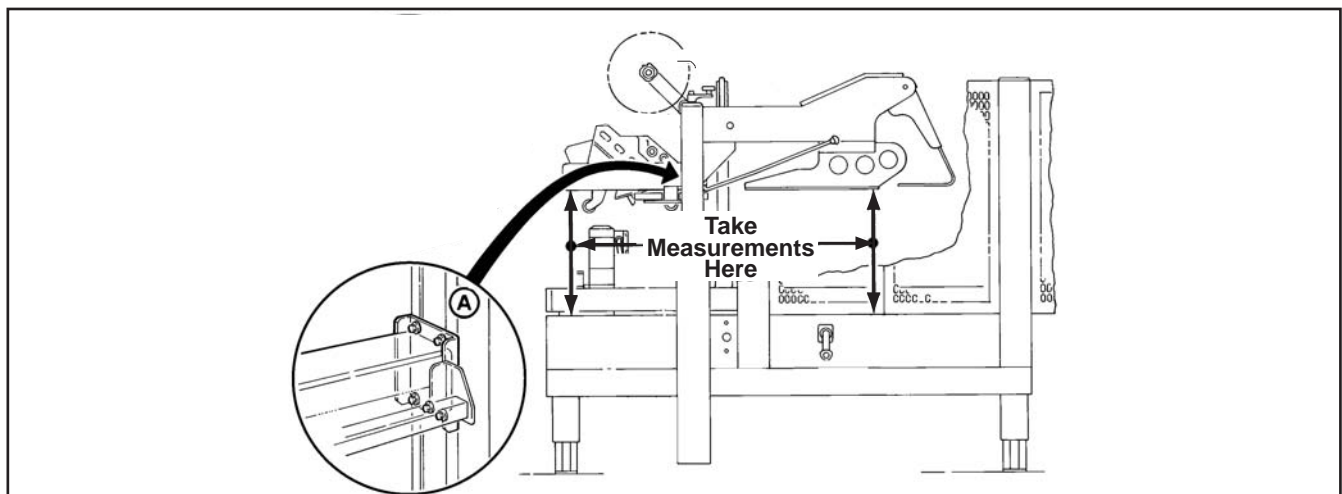

Figure 13-8 – Upper Taping Head Leveling
2. Take measurement from exit end of upper head assembly and front of flap folding ski to machine bed, as shown in **Figure 13-8**. Upper assembly must be level $\pm 1.5\text{mm}$ [$\pm 1/16$ inch].